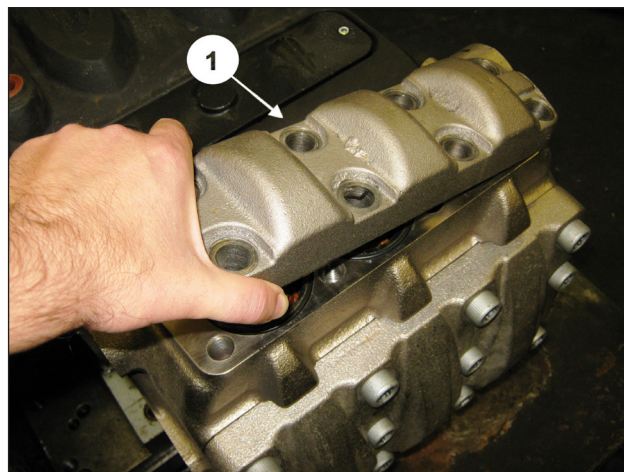
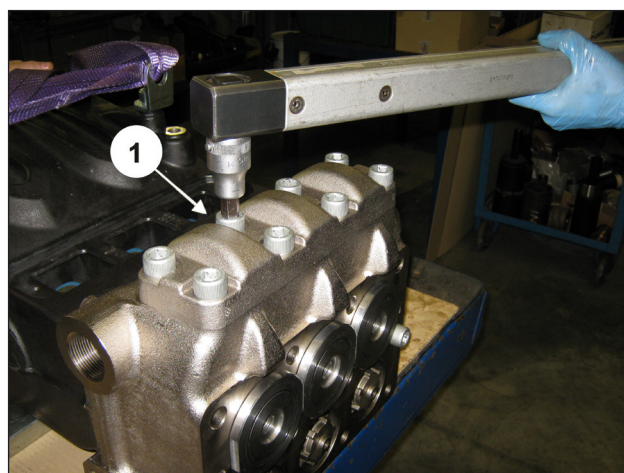

Fig. 147
Fig. 148
After having completed the assembly of the outlet valve units, fit the outlet valve cover (pos. ①, Fig. 147) and screw in the 8 M16x45 screws (pos. ①, Fig. 148) as indicated in chapter 3 SCREW TIGHTENING CALIBRATION.